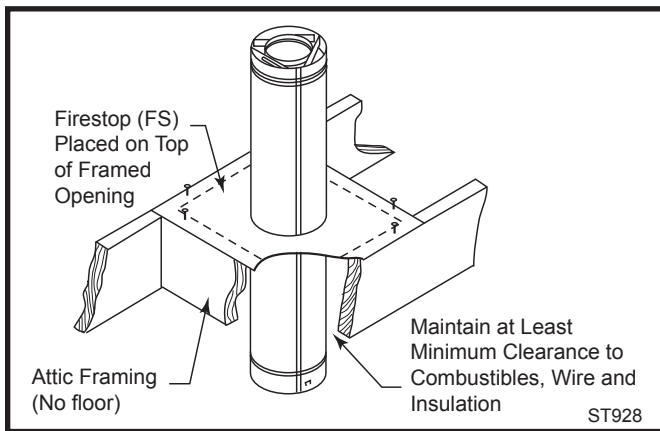

Fig. 38 Firestop spacer.
DIRECT-TEMP must be firestopped wherever it passes through floors, ceiling or walls. The only location where a firestop is not required is at the roof level. Both vertical support components with trim plates provide for firestopping. The wall thimble also acts as a firestop. at other locations, a firestop spacer (FS) should be installed. In the attic the firestop should be placed on top of the joist framing to prevent debris from falling into the joist framing. (Fig. 38)